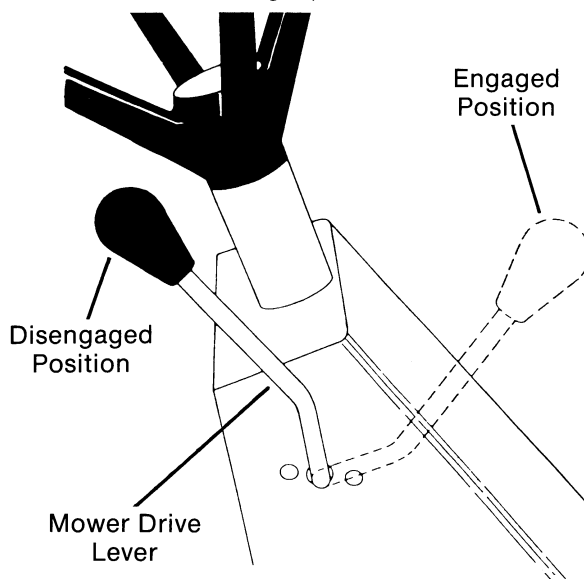

FIG. 9
- B. Pull the mower drive lever to the disengaged position. (Fig. 9)
- C. Push mower drive lever to the engaged position. (Fig. 9)
- Move mower drive lever to the engaged position. (Fig. 9)